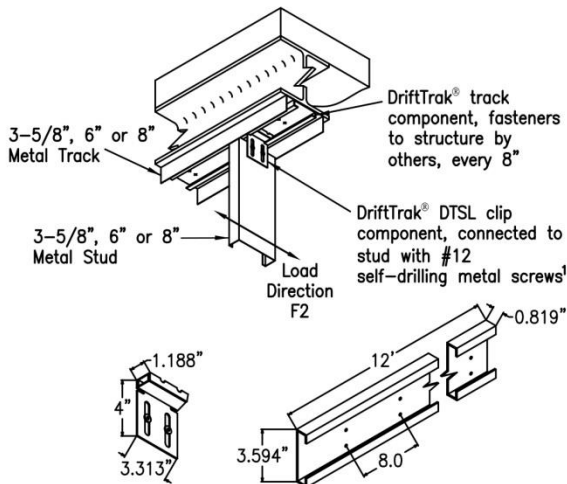

Figure 10 – DriftTrak® DTSL
3.3.6 DriftTrak® DTSL: The DriftTrak® DTSL is an L-shaped angle and track combination that connects exterior curtain wall steel studs of various depths at the head of wall to the building's structural frame while allowing for a maximum of 2 inches (51 mm) of vertical movement, and free horizontal movement between exterior wall elements and the primary structure. The minimum base-metal thickness of the clip is 0.0677 inch (1.7 mm) and the minimum base-metal thickness of the track is 0.0966 inch (2.5 mm). The long leg of the DriftTrak DTSL connector, which is fastened to the curtain wall stud, has two vertical slots, each 3/8 inch (9.5 mm) wide by 2³/₈ inches (60 mm) long, and has bushings designed for #12 self-drilling/self-tapping steel screws installed in the centers of the slots. Refer to Figure 10 for overall dimensions of each DriftTrak DTSL connector and a typical installation detail.